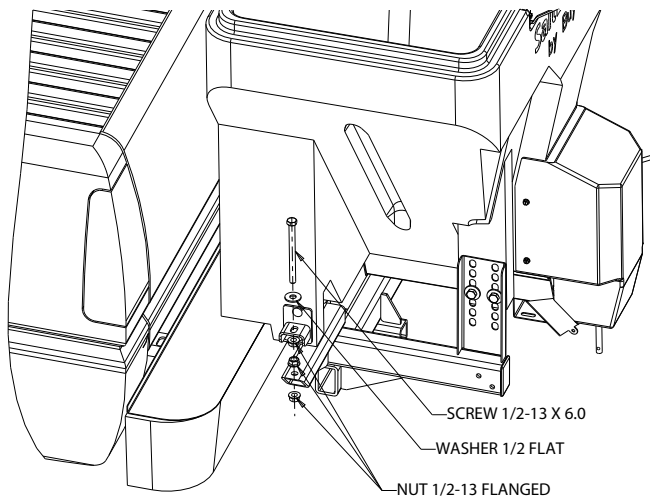

Fig. 5
5. Assembly 1/2-13 x 6.0 screws with flat washers and 1/2-13 flanged nuts as shown in Fig.5. Make sure that nuts located between hopper side brackets and frame positioned exactly as shown. These nuts must not be in contact with brackets and frame at this time.